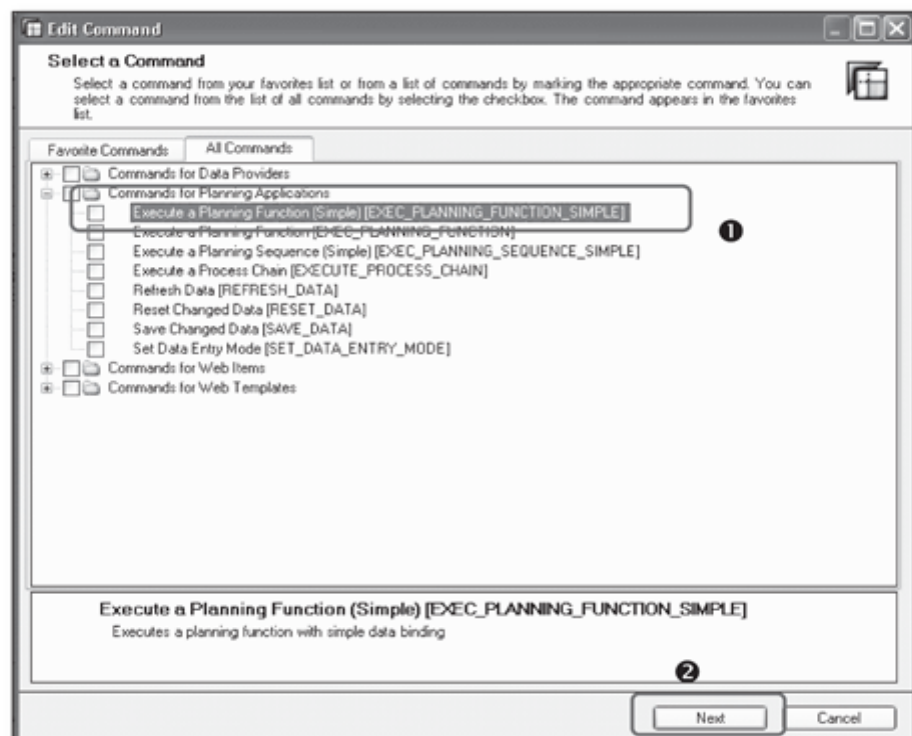

Figure 12.100 Select Command to for the Copy Button
14. Select the Execute a Planning Function (Simple) (EXEC_PLANNING_FUNCTION_SIMPLE) command (❶ of Figure 12.100), and then click on the NEXT button (❷)